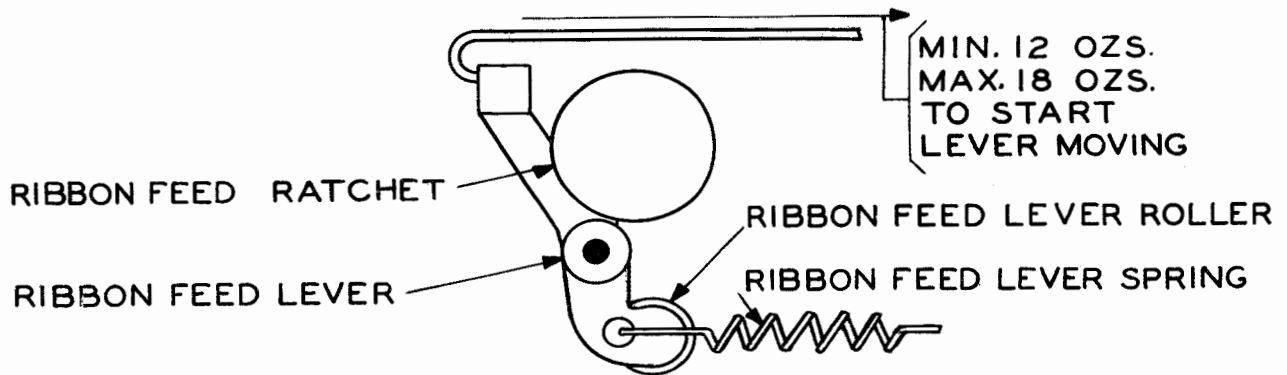

Figure 5
2.13 Ribbon Feed-lever Spring: Loosen the ribbon feed pawl and move it out of engagement with the ribbon feed ratchet. With the ribbon feed-lever roller in the plunger indent it shall require minimum 12 ounces, maximum 18 ounces to start the lever moving. Tighten the ribbon feed pawl. (See Figure 5.)